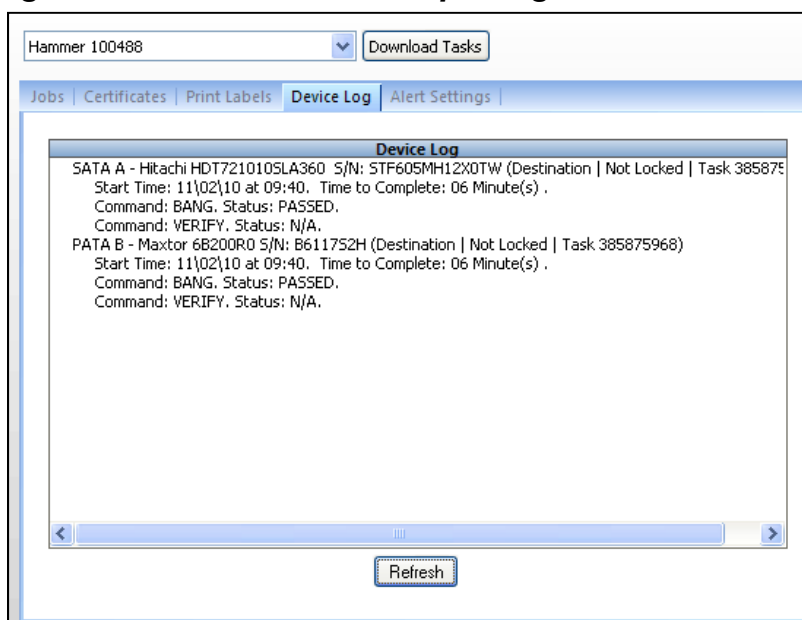

Figure 53 - Log Tab
In the example shown in Figure 53, two (2) drives have been subjected to eradication using NIST 800-00 ‘Clear’. The information shown in the Device Log screen includes information about each drive as well as the start time and elapsed time: